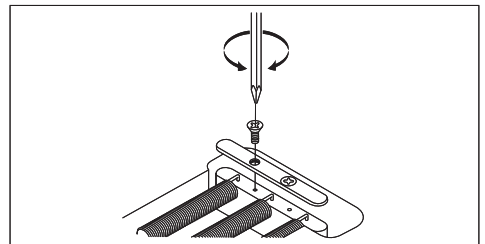

Fig. 27
- \* The EDGE-PRO tremolo uses a block lock mechanism to fasten the tremolo springs to the block. Before you change the number of springs or the way in which they are installed, use a Phillips (+) screwdriver to remove the block lock (Fig. 27).